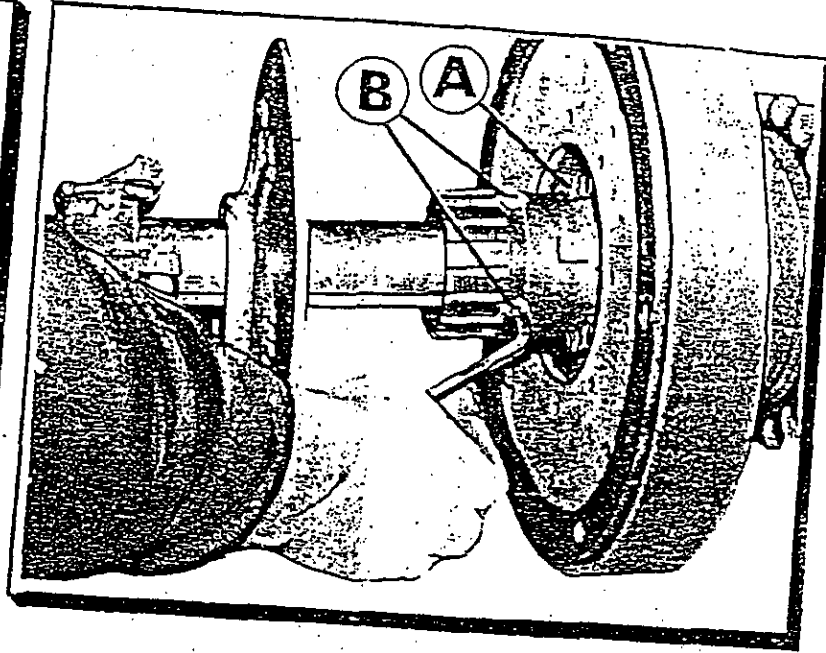

FIG. 2
The alignment of this sprocket is accomplished by moving the clutch on the countershaft. To do this, it is necessary to loosen the set screws which secure the clutch body (A) Fig. 1 to the countershaft. First, slide the shifter assembly (B) Fig. 1 away from the clutch body and remove the finger assembly (C) by unscrewing it from the clutch body. Next, loosen the set screws, see Fig. 2, and slide the clutch body away from the clutch bowl (D) so the inside locking collar (E) Fig. 1 may be removed. This inside collar was not used on some of the early models. The inner and outer collars (E) and (F) Fig. 1 are removed by releasing the set screws and rotating them with a spanner wrench, or with a punch inserted in the hole in the collar.
Check the springs (A) Fig. 2 for tension and make sure they are all in place. Re-assemble the clutch body (A) Fig. 1 and secure it to the countershaft by tightening the two set screws (B) Fig. 2. Replace the finger assembly and adjust as per instructions outlined in "CLUTCH ADJUSTMENT"